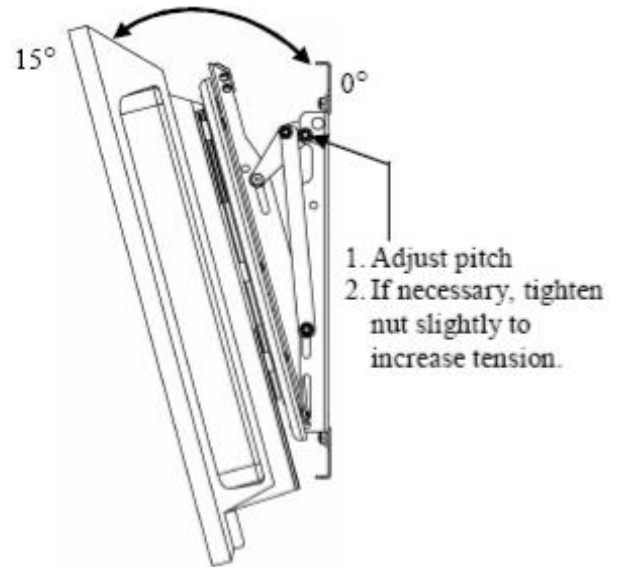

Figure 7. Tilt Adjustment
2. If desired, tighten the nut (see Figure 7) using a 3/8" wrench to increase the amount of tension needed to hold the mount in the position set in Step 1.